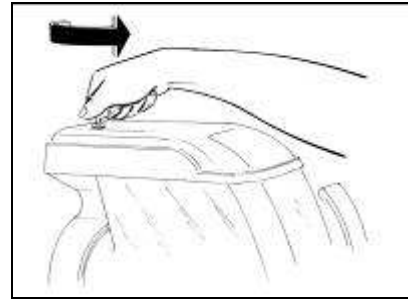
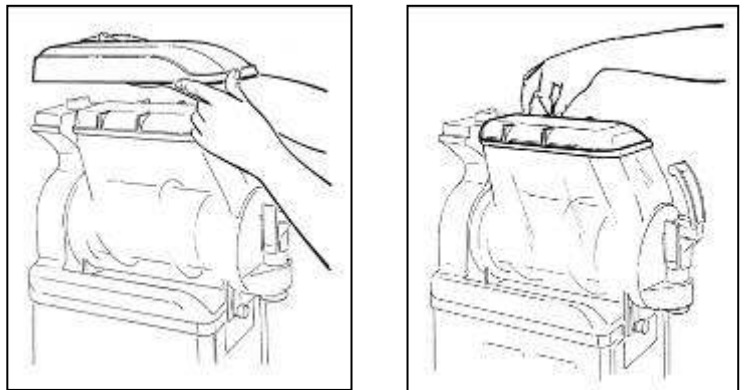

Fig. 10
Fig. 11
- After unlocking the main cover with its key (fig.10), remove the main cover and the secondary one under it (fig.11).